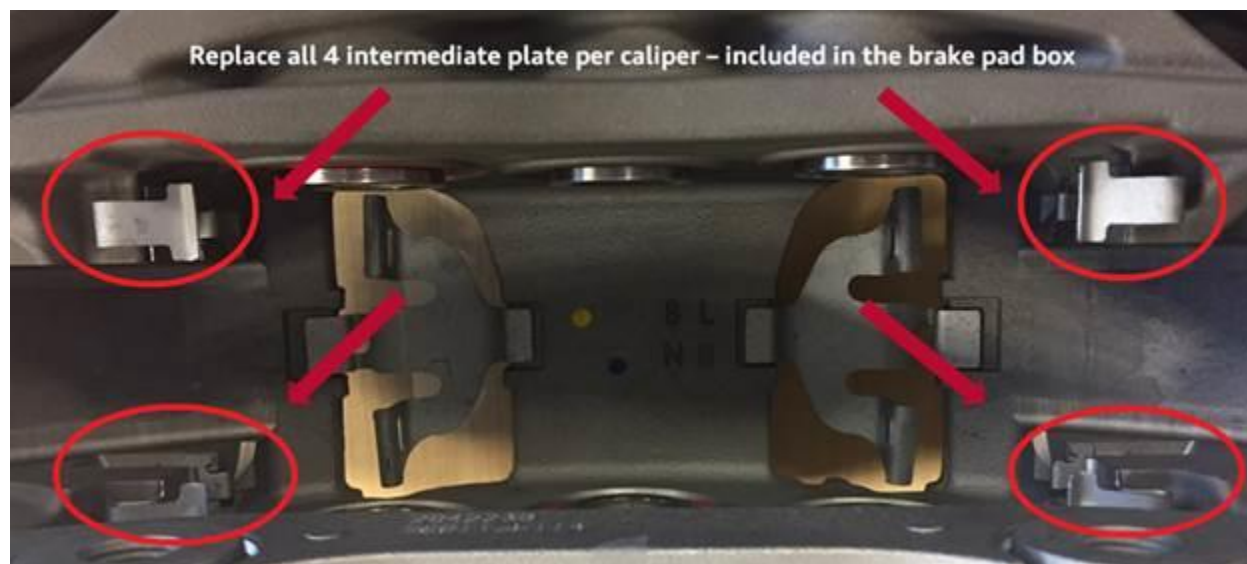

Figure 6. Replace all 4 intermediate plates.
6. It is mandatory to replace all 4 brake pad intermediate plate per caliper – included in the brake pad box (Figure 6).